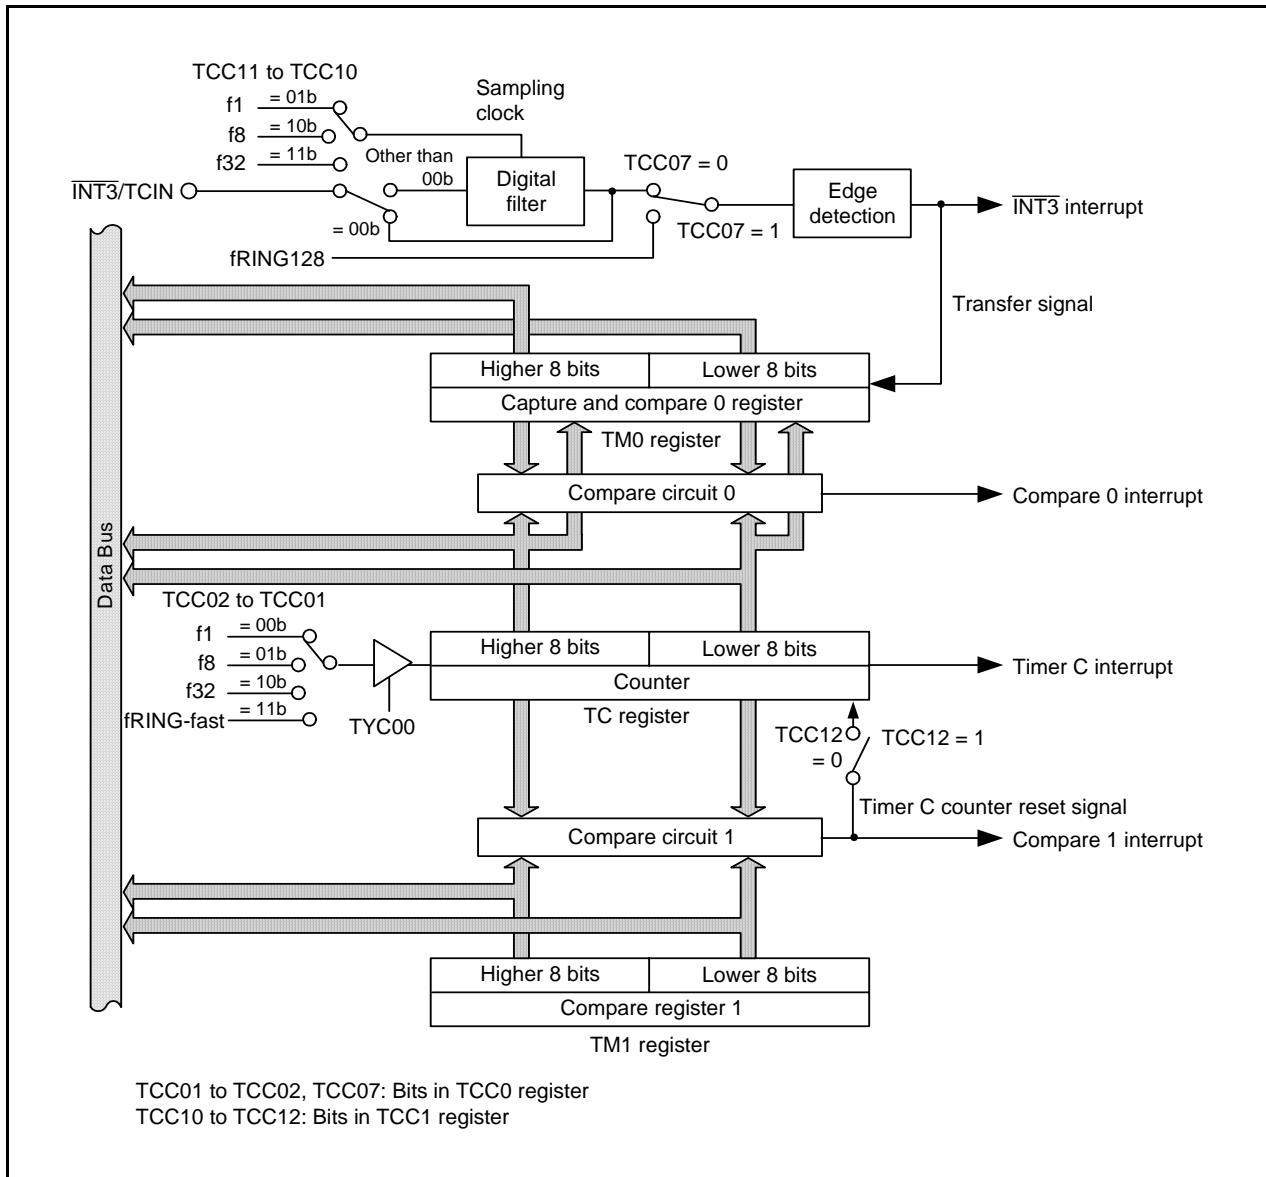
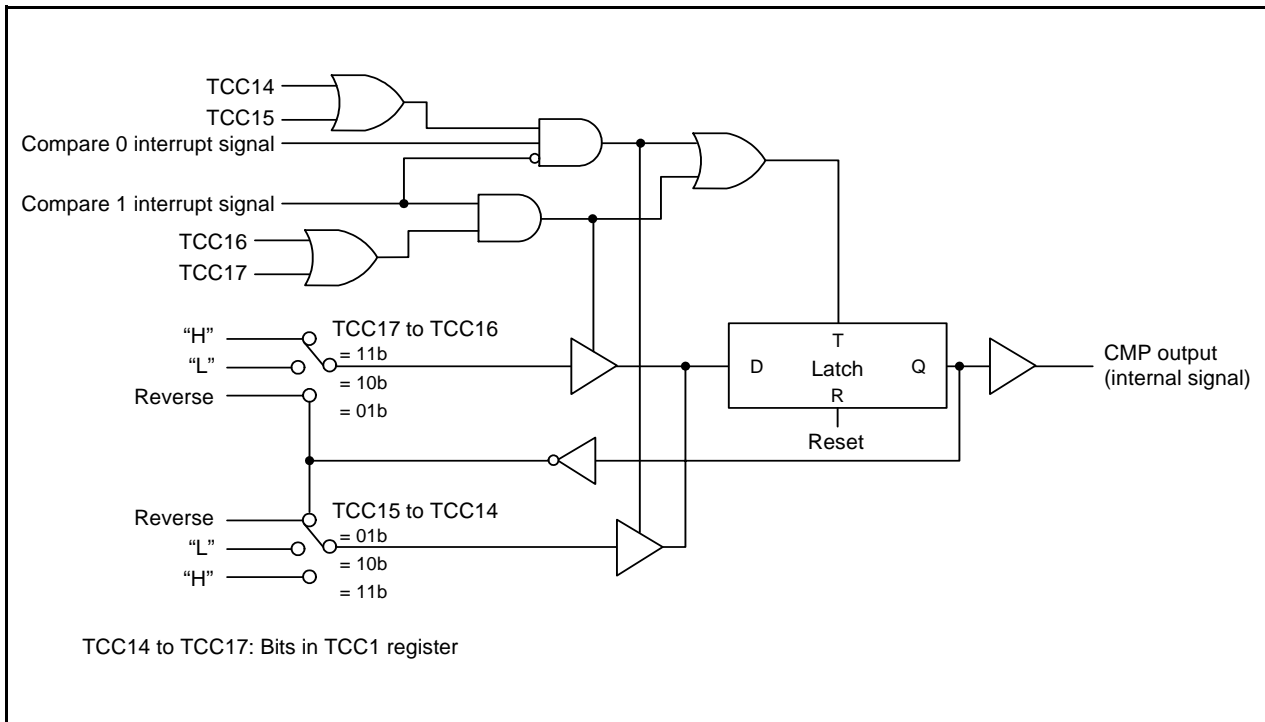
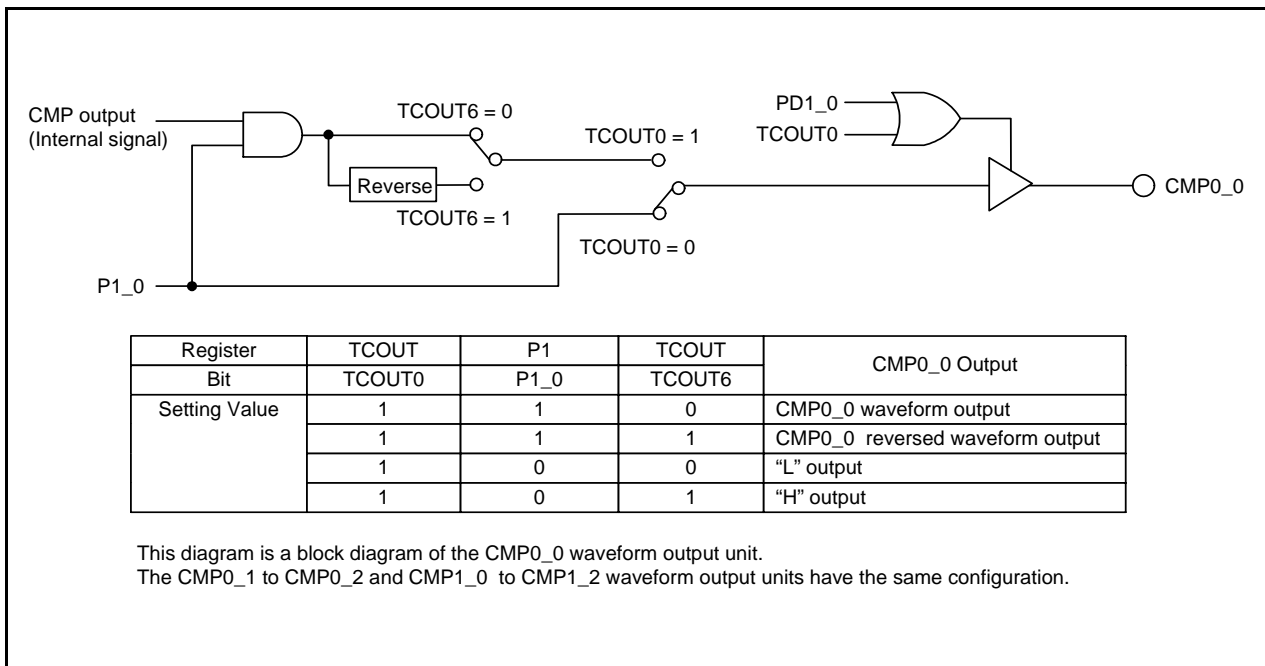
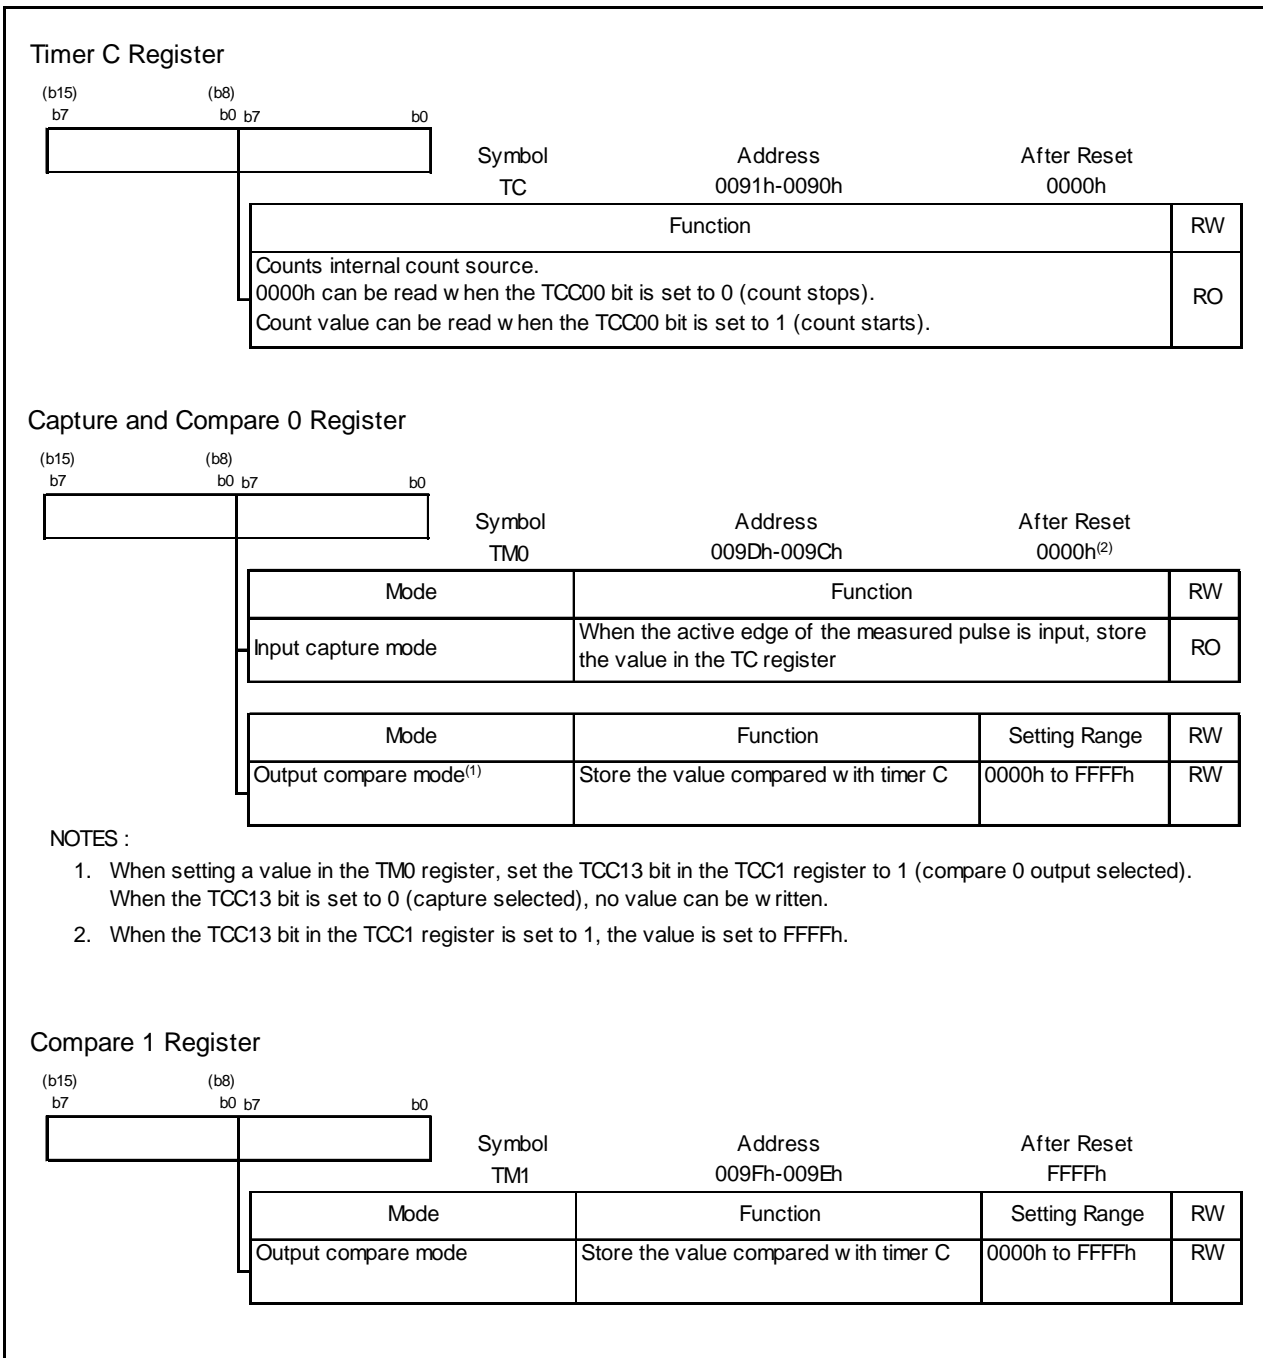

Figure 14.23 Block Diagram of Timer C
Figure 14.24 Block Diagram of CMP Waveform Generation Unit
Figure 14.25 Block Diagram of CMP Waveform Output Unit
Figure 14.26 Registers TC, TM0, and TM1
Timer C is a 16-bit timer. Figure 14.23 shows a Block Diagram of Timer C. Figure 14.24 shows a Block Diagram of CMP Waveform Generation Unit. Figure 14.25 shows a Block Diagram of CMP Waveform Output Unit. Timer C has two modes: input capture mode and output compare mode. Figures 14.26 to 14.29 show the Timer C-associated registers.
1. When the corresponding port data is 1, the waveform is output depending on the setting of the registers TCC1 and TCOUT. When the corresponding port data is 0, the fixed level is output (refer to **Figure 14.25 Block Diagram of CMP Waveform Output Unit**).